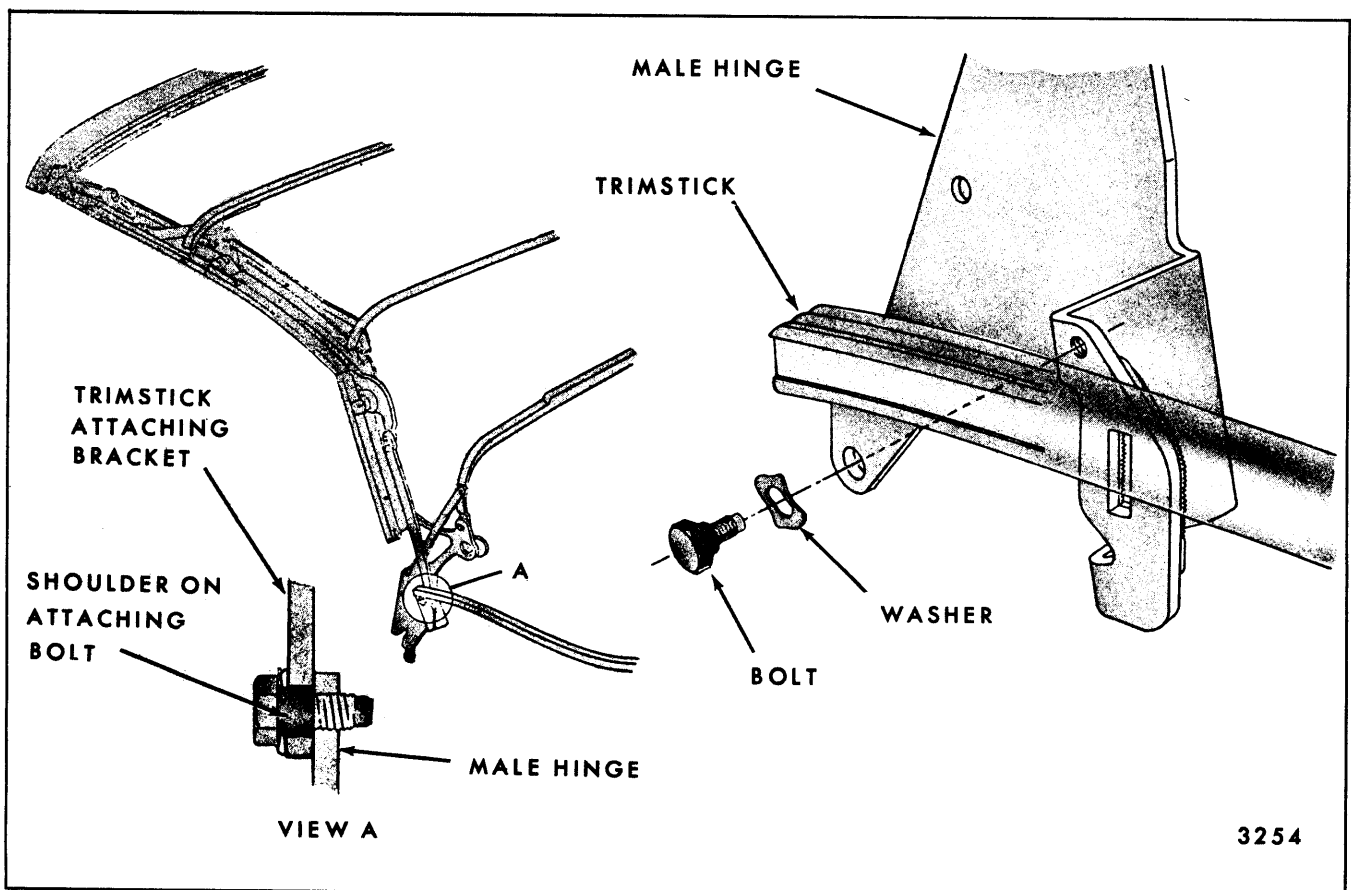

Fig. 13-43—Trimstick Attachment "A" Styles
4. Secure rear trimstick(s) to body assembled position and tighten all attaching bolts (Fig. 13-43, 13-45 and 13-47).
On "A" styles, use a suitable box-socket type wrench to remove each bolt from "outside" surface of male hinge (Fig. 13-43 and 13-44).
7. Secure rear trimstick(s) to body assembled position and tighten all attaching bolts (Fig. 13-43, 13-45 and 13-56).